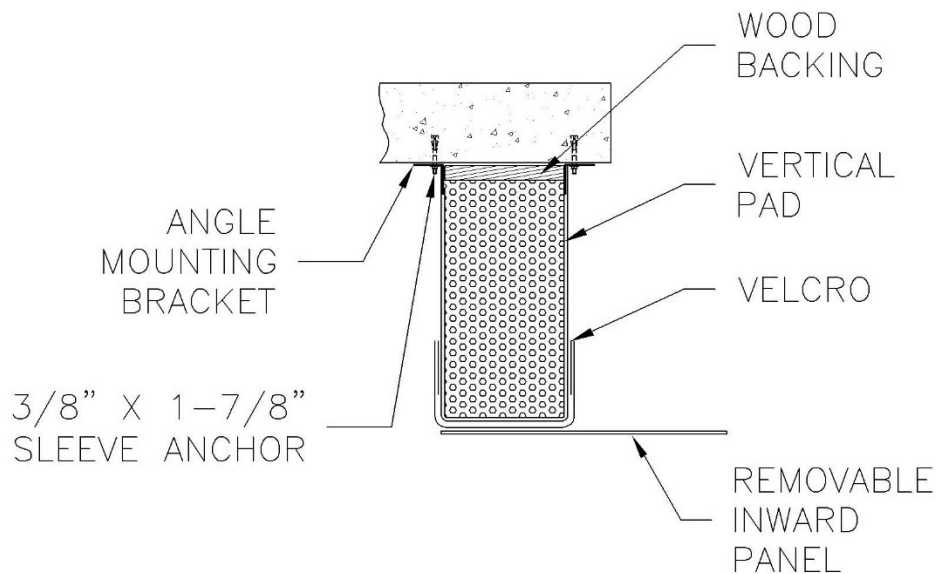

FIG. 11
- i. Once the vertical pad is in position, drill a 3/8" hole into the mounting location and then drive a 3/8" sleeve anchor bolt (Fig. 11) through each bracket (**use holes provided**).